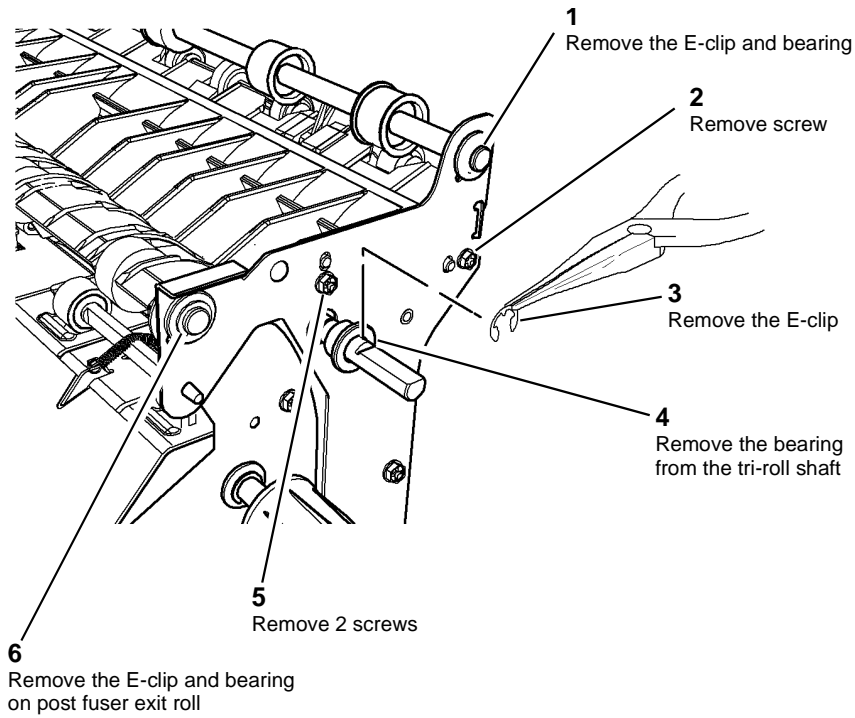

Figure 2 Preparation
- Remove the tri-roll, fuser exit and exit shaft bearings, **Figure 2**. Remove the duct (65-90 ppm) or the baffle guide (35-55 ppm), **PL 10.13**.